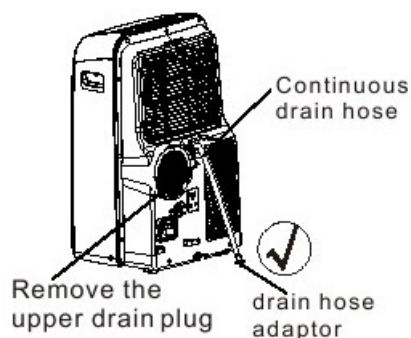

Fig. 20a
- Position the open end directly over drain area. (Fig. 20a)